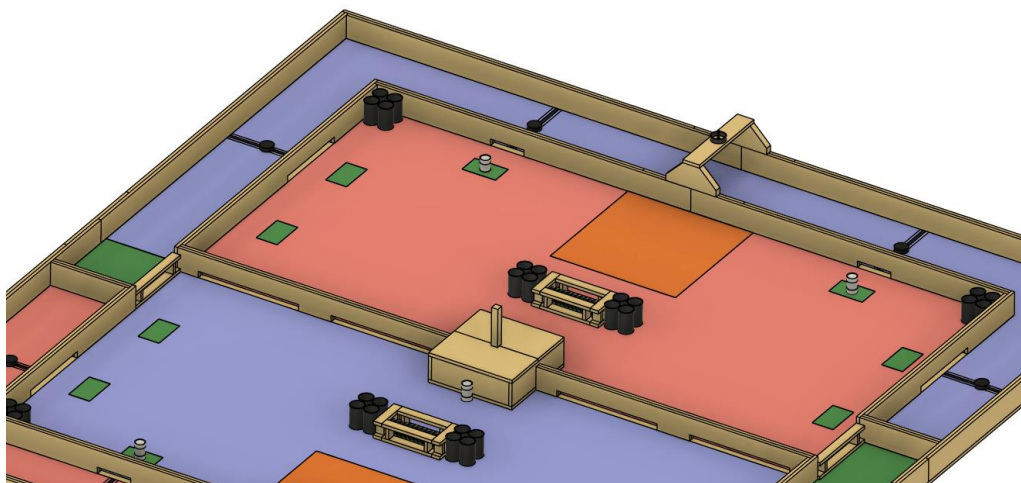

Figure 4: The Corral
4.2.1.2. The starting zone is the orange square area in Figure 4, located in the center of the court, against the wall separating the corral and the opponent's Autonomous Zone.